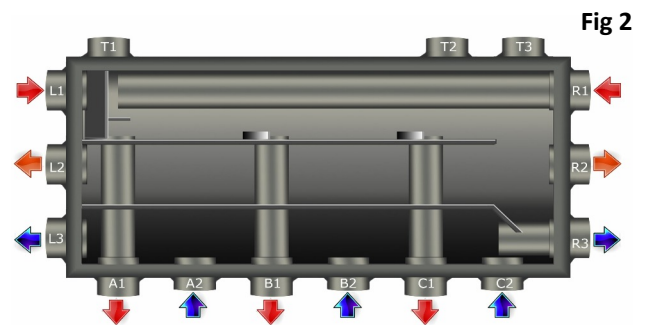

Fig 2
**Simplified System Design:** Figures 2 and 3 show examples of how an NRG Zone could be used to collect heat from single or multiple appliances for distribution in single or multi-zone applications. The 'Flow' & 'Return' connections beneath the
**The ' Top Chamber'** is where the hotter water collects from appliance flow inputs. In the conventional NRG Zone piping arrangement, (Fig 2) the unit merges the different appliance flow-inputs into a ' left to right' direction. The various zoned circuits 'flows' are also distributed from this chamber.